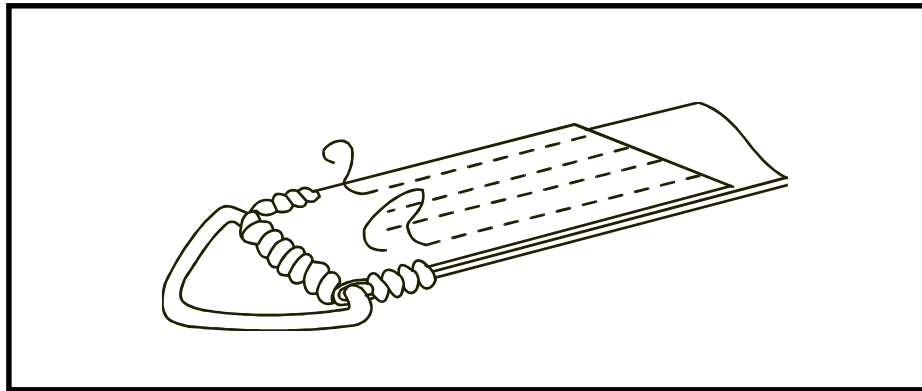

Figure 13-8. Reinforcement stitching
(2) Stitching. Sew four parallel rows of machine stitching the length of the chape (Figure 13-8). Hand sew four round stitches on both sides of the looped end of the chape. Sew five round stitches on the end looped through the hardware.